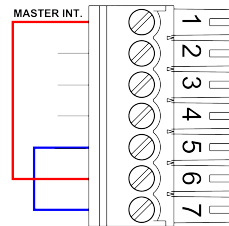

Figure 2.12: Permanently *Interlock*(not recommended)
- Input activated permanently(Fig. 2.12). This connection can be used an initial testing *Digital IN* but is not recommended during normal device operation .